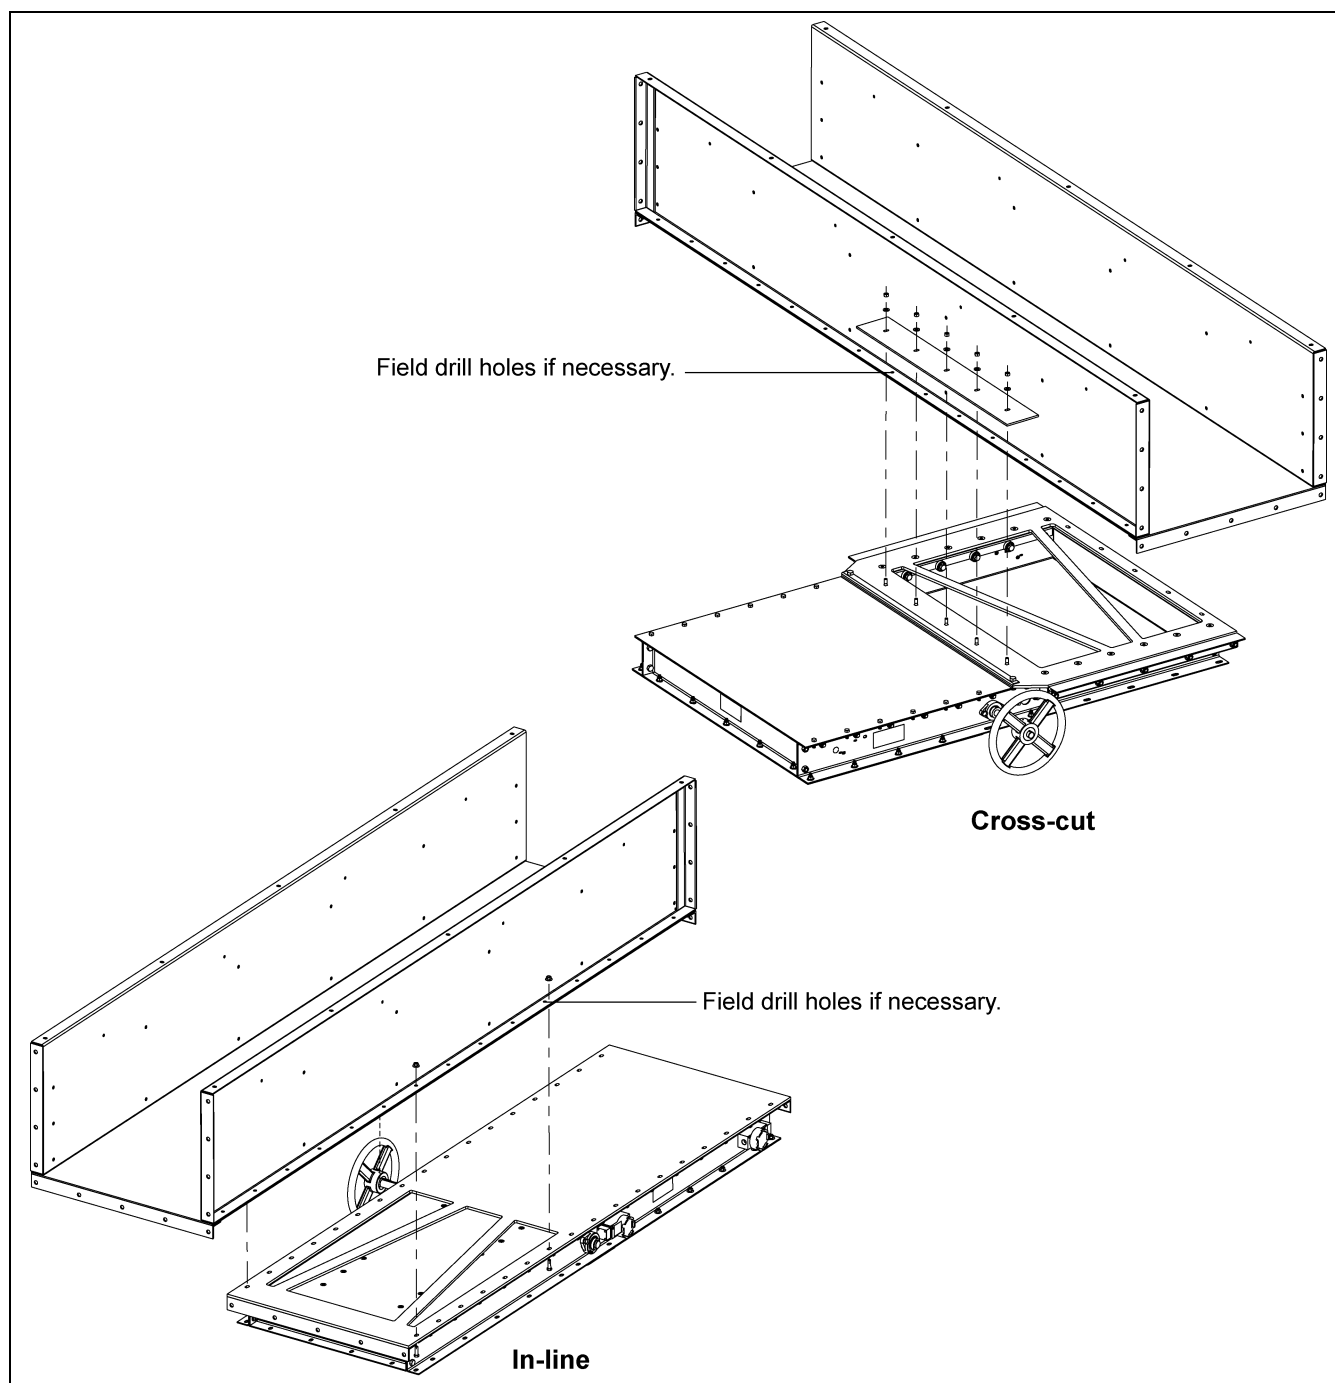

Figure 3L
3. It may be necessary to drill holes in the trough side flange. *(See Figure 3L.)*